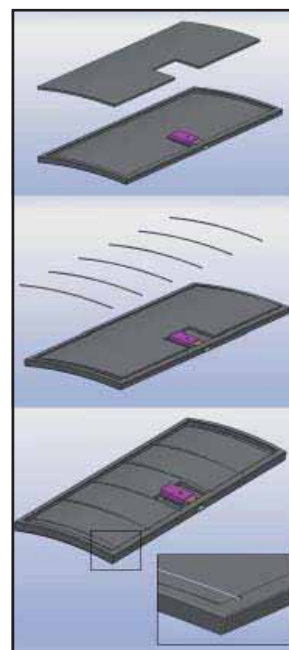

Fig.13
2. Remove decorative mesh filter from hood and place charcoal filter on top of mesh filter. Secure charcoal filter to mesh filter by using the supplied wire brackets as shown in Fig.13.